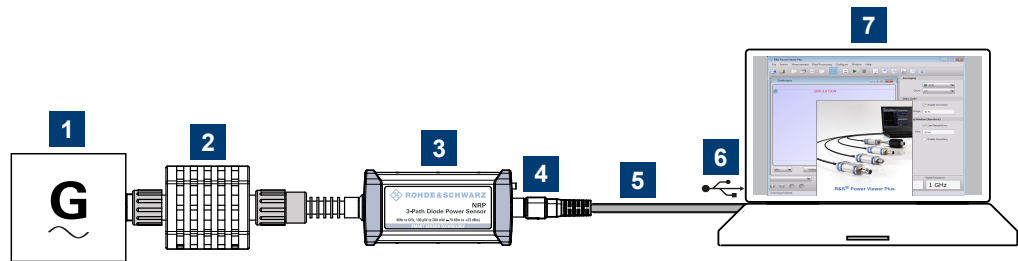

Figure 5-2: Setup with the R&S Power Viewer
2. Connect the cables as shown in Figure 5-2.